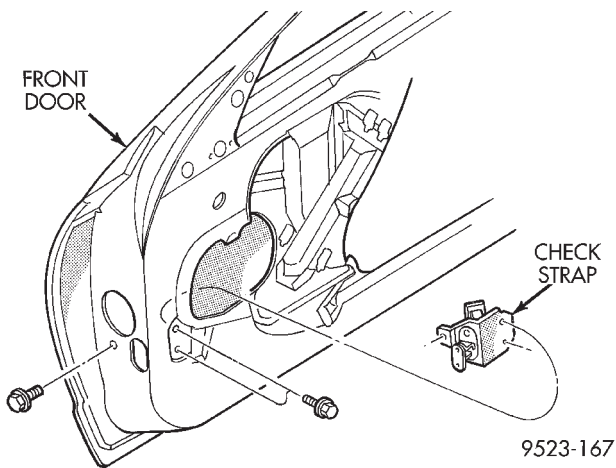

Fig. 41 Front Door Check Strap
- (1) Remove front door trim panel.
- (2) Remove bolt holding check strap to hinge pillar.
- (3) Remove bolts holding check strap to inner door panel (Fig. 41).
- (4) Remove bolt holding check strap to door end frame.
- (5) Separate check strap from vehicle.